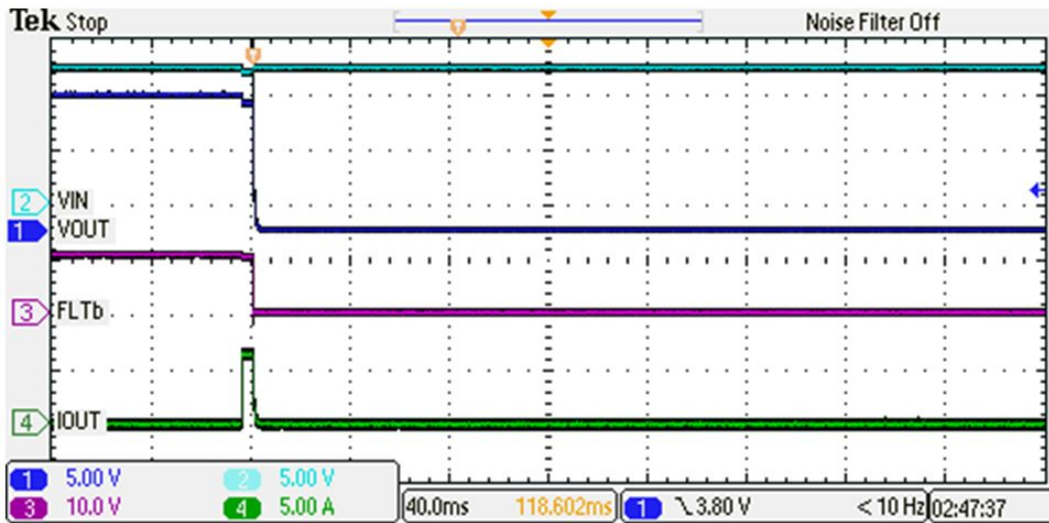

Figure 7. Output Short-Circuit Behavior of Latched Circuit Breaker (CH2)
- Set the output load at $1.0 \pm 0.1 \Omega$ on CH1 and current limit to 5.3 A, and then enable the load. Turn on the power supply, verify that input current is limited as per the setting in Table 9 and the device goes in auto retry mode and FLTb1, RED LED (D2) turns ON. Observe from Figure 7 that the circuit breaking time delay is 4.36 ms